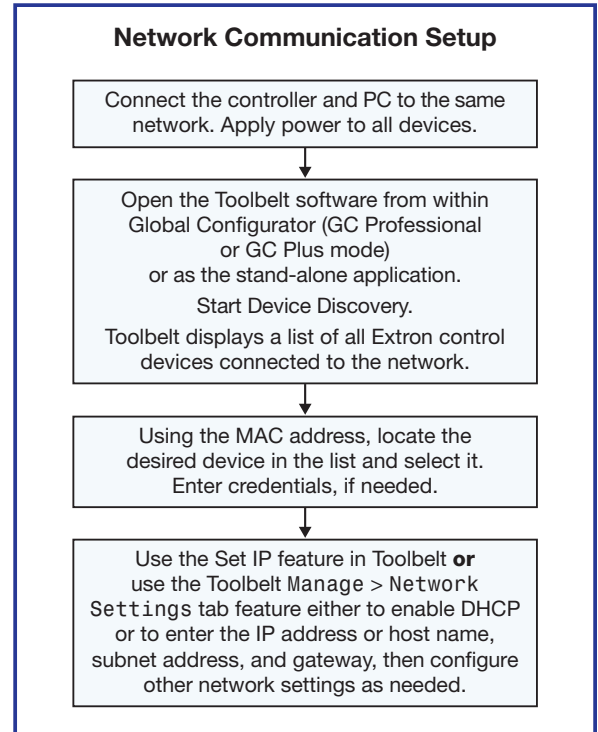

Figure 5. Network Setup
1. **For AAP models**, attach any optional AAP devices or blank AAP plates to the metal AAP bracket as shown in figure 5 at right. Fasten the built-in screws to the bracket with the provided nuts (hand tighten).